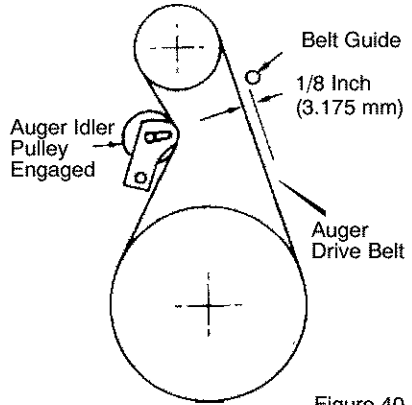

Figure 40
3. Measure the distance between the **belt guide** and **auger drive belt**. The distance should be 1/8 inch (3.175 mm). See Figure 40.